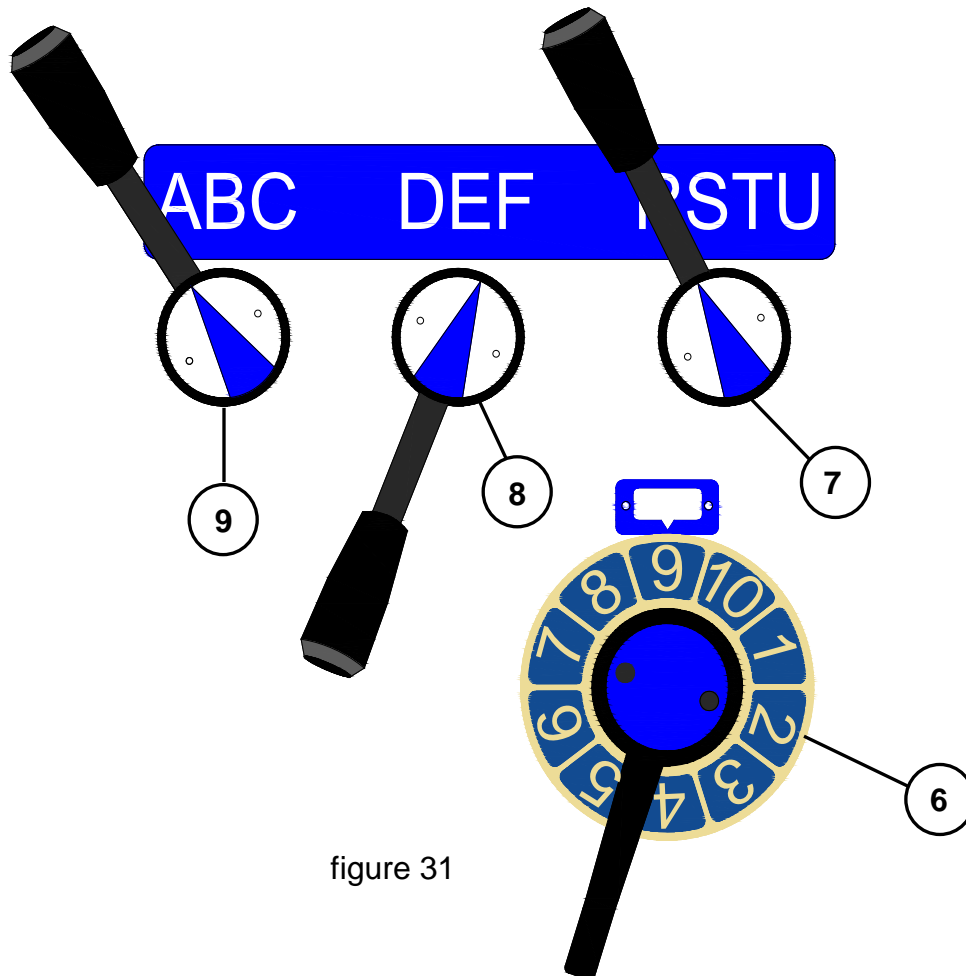

figure 31
The three knobs as shown in (fig. 31) are used to change the feed rate or number of threads-per-inch. This part of the lathe is commonly referred to as the Quick Change Gear Box. It has been designed to handle both inch (imperial) and metric (mm). The knob on the left (9) A, B, & C, the center knob (8) D, E, & F, and the right knob (7) R, S, T, & U are set to a selected value from the chart on the following page. The feed selector dial (6) will be set to a numerical value from the chart. (This chart is also located on the front of the headstock gear cover.)
**Note:** DO NOT force the selection knobs into position. If they do not engage, carefully rotate the chuck by pressing the jog button (1). As the chuck is rotated, it aligns the gears, and the selector knob will engage.